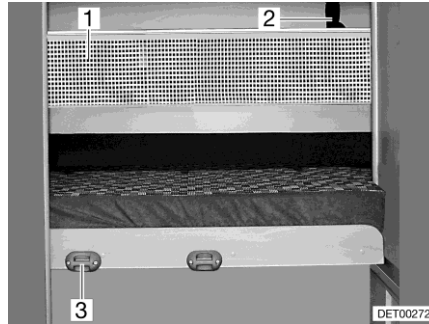

Fig. 75 Safety net
**Attaching:** ■ Attach the access ladder with the rails to the holder (Fig. 75,3) on the panel.
**Safety net** The safety net (Fig. 75,1) is stored as standard between the mattress and slatted frame. Do not use the safety net until the person is already in bed.
**Setting up:** ■ Fasten the retaining straps (Fig. 75,2) to the holders on the ceiling.